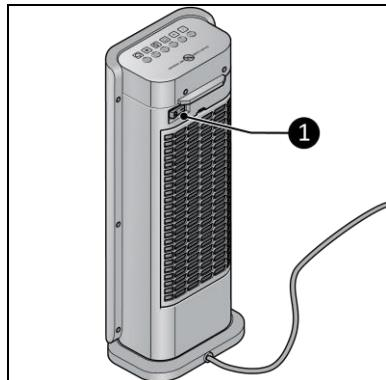

Figure 9
1. Press the main ON/OFF button on the back of the device (Figure 9, pos 1).